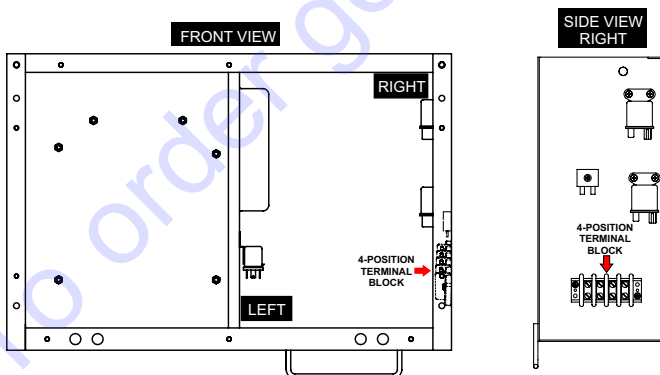

Figure 6. Terminal Block Location (Control Box)
1. Open the control panel door and locate the 4-position terminal block behind control panel on the **right-side** of the control box as referenced in Figure 6.
Figure 6 shows the location of the 4-position terminal block for the DCA25SSIU4F generator. This terminal block will be in a similar location for the remaining generators.